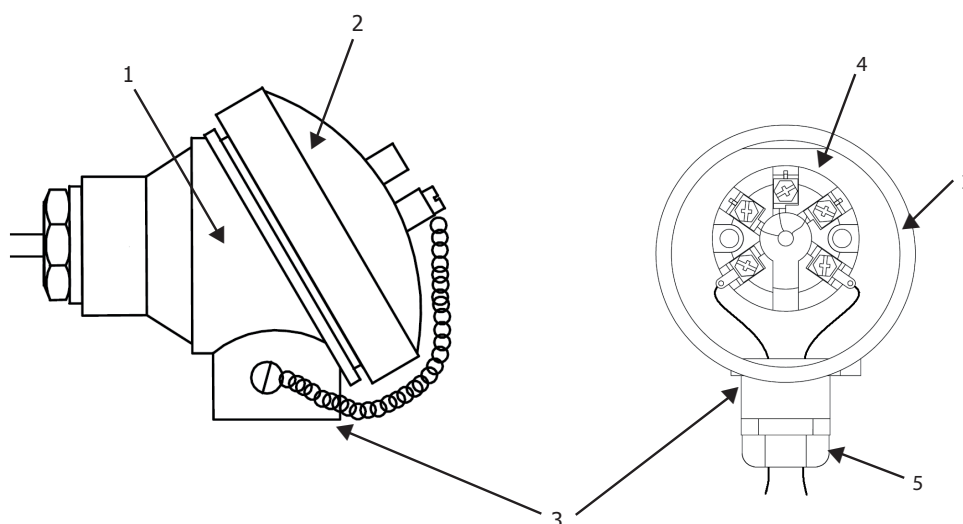

Figure 19 Temperature Transmitter Housing
- a. Cable connection to the temperature transmitter is made via the terminal block (4) accessed by removing the terminal housing lid (2) (*Figure 19*).